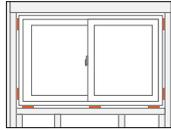

fig. 12 - Slider
**The sill of the window must be supported in a straight and level position**, with the shims at all locations where the jambs, intermediate jamb or stiles meet the sill. Select and apply shims on the sill as described above. Multiple units or uniframe units need to have a shim under each mullion, intermediate jamb and the center stiles of the slider. Check mulls for level. (fig. 12, 13, 14, 15 & 16)